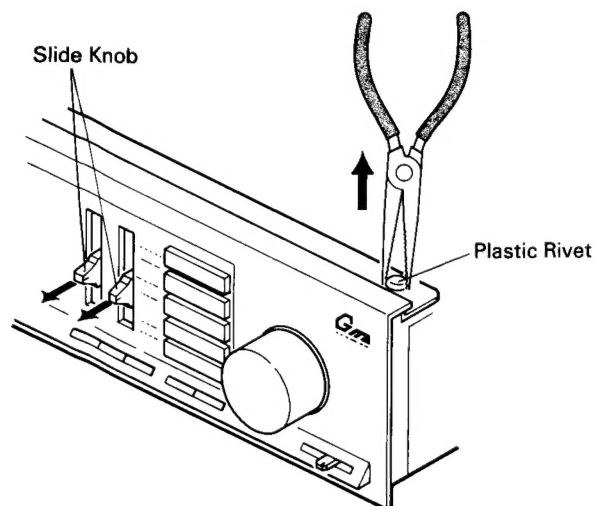

Fig. 3
3. Pull out 3 plastic rivet bushes (2 on the both ends and 1 on the center) on the front panel by using the pinchers (Fig. 3).
4. Pull out 7 slide knobs and pull out the front panel (Fig. 3).